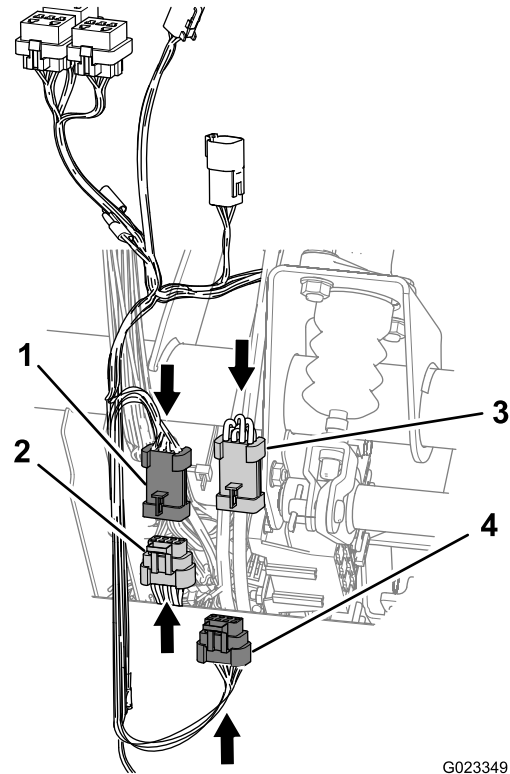

Figure 22
3. Locate the 8-pin and 8-socket connectors located on the harness of the throttle kit (Figure 22).
4. Connect the 8-pin connector of the throttle kit harness to the 8-socket connector for the front wiring harness of the machine (Figure 22).
5. Connect the 8-socket connector for the throttle kit harness to the 8-pin connector for the rear wiring harness of the machine (Figure 22).
1. Route the branch of the wiring harness of the kit with the 2-pin connector for the parking brake switch down from the main harness interconnections that you connected in steps 4 and 5 of Connecting to the Main-harness Interconnections (page 11) and along the rear-wiring harness for the machine (Figure 22).